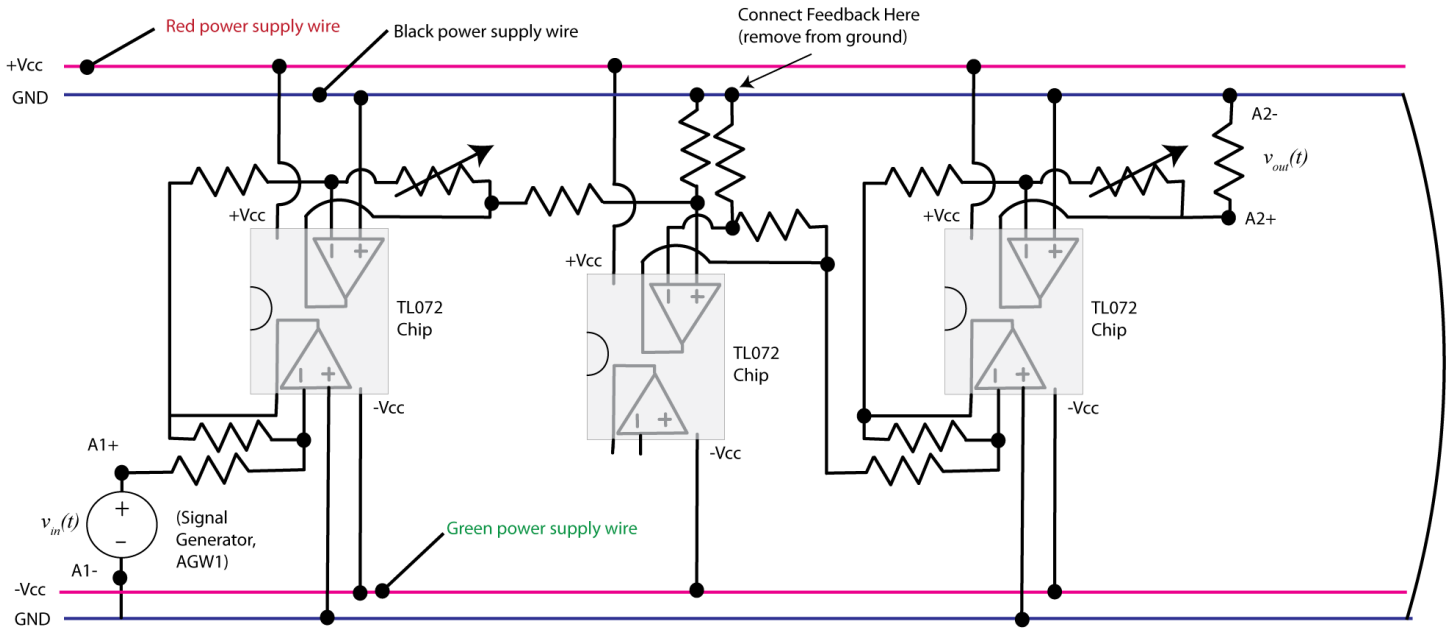

Figure 5. Prefilter, differential amplifier, and proportional controller.
5) Connect the first three stages of your system, as shown in Figure 5. The output should match the input. If it does not, modify the variable resistor on the controller. Be sure the remove the load resistor before you go on.